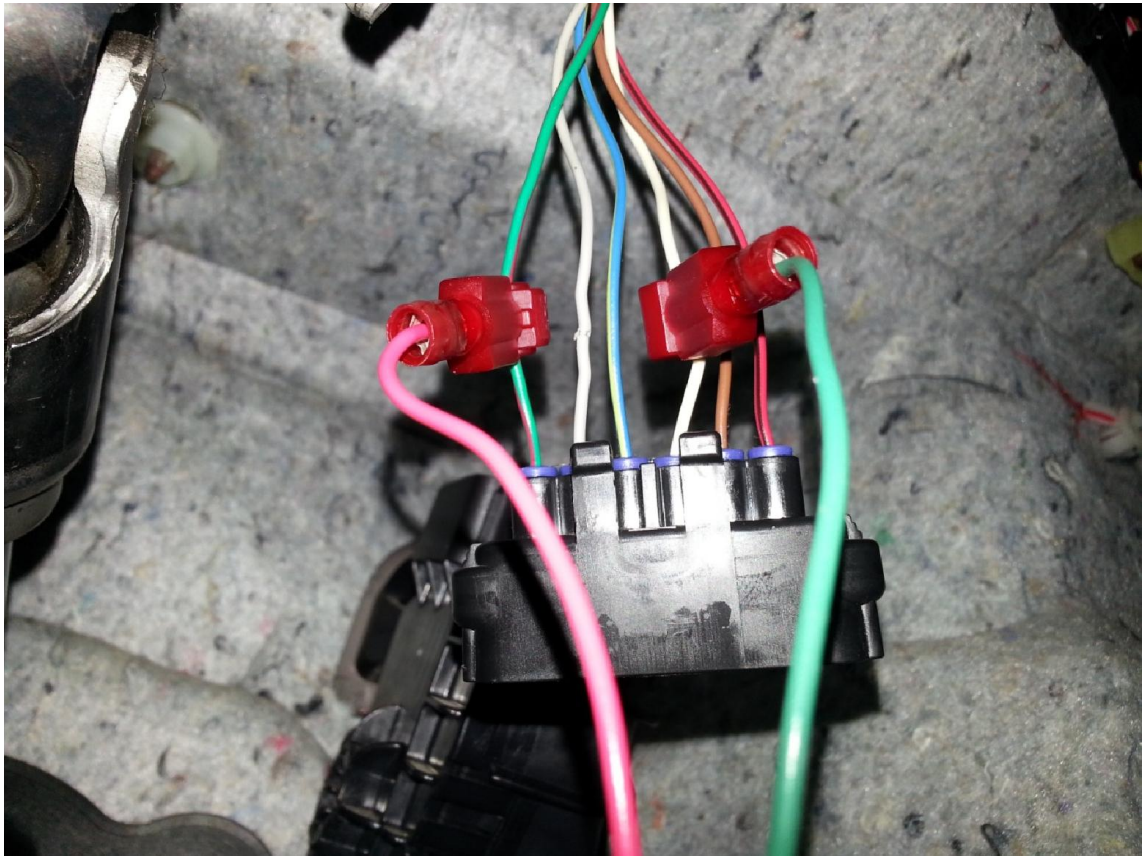

Figure 2 (Accelerator Pedal Position Sensor wire tabs placement)
2. Attach supplied wiretaps, one each, to the **white** and **green/red** wires on the APPS sensor (Figure 2).